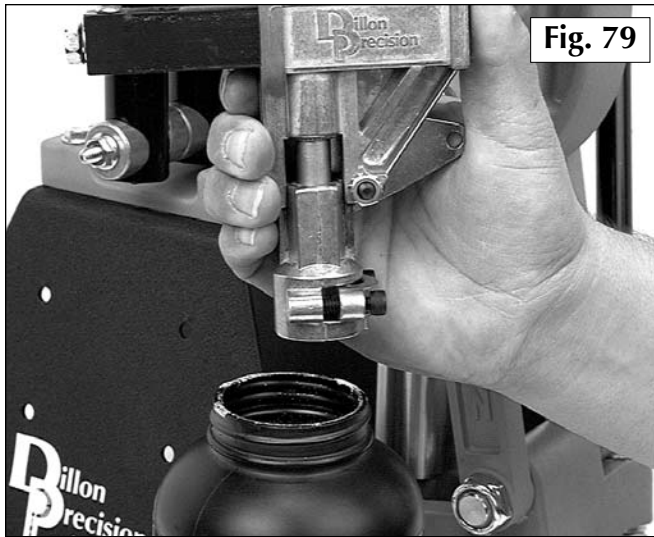

Fig. 79
5. Turn the powder system upright and position the unit over the opening of the powder container and cycle the powder bar with your thumb. **Fig. 79**